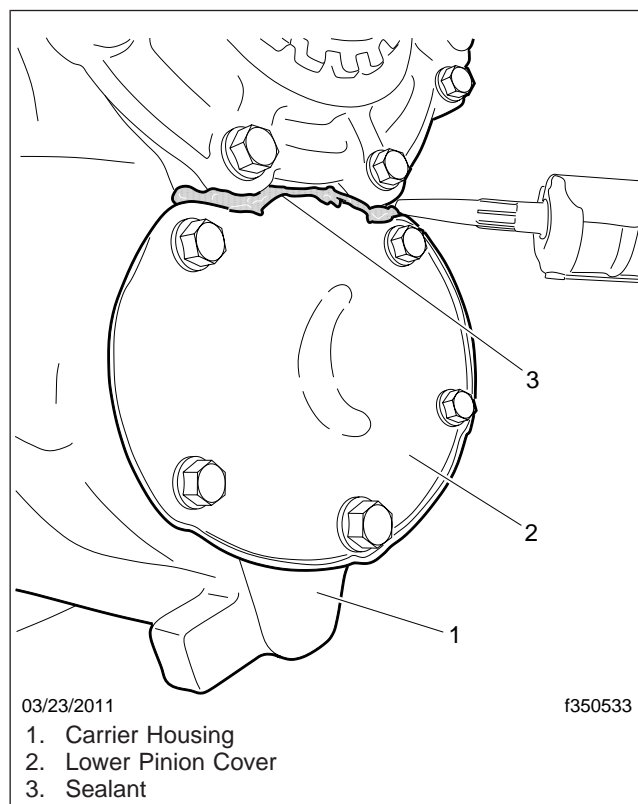

Fig. 2, Sealing the Top of the Lower Pinion Cover
4. Apply Loctite 5900 to the area at the top of the cover as shown in **Fig. 2**. This seal prevents water from collecting and seeping behind the cover and into the housing.